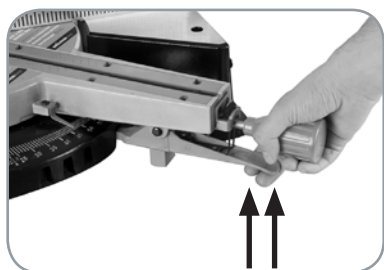

Fig. 30
- Pull up the Positive Stop Locking Lever. (**Fig. 30**)